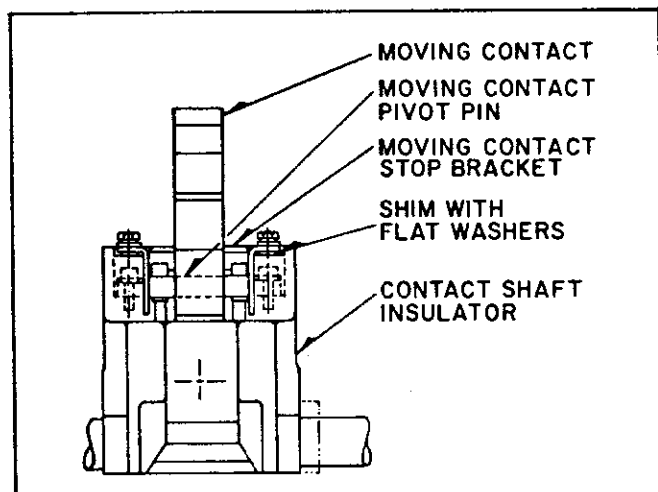

Fig. 10 Moving Contact Adjustment (Dwg. 3513C83)
4. In the event initial contact forces or contact touch points are not within allowable limits, adjustment may be made by increasing or decreasing the number of flat washers under the stop bracket mounting lugs as shown in Figure 10.